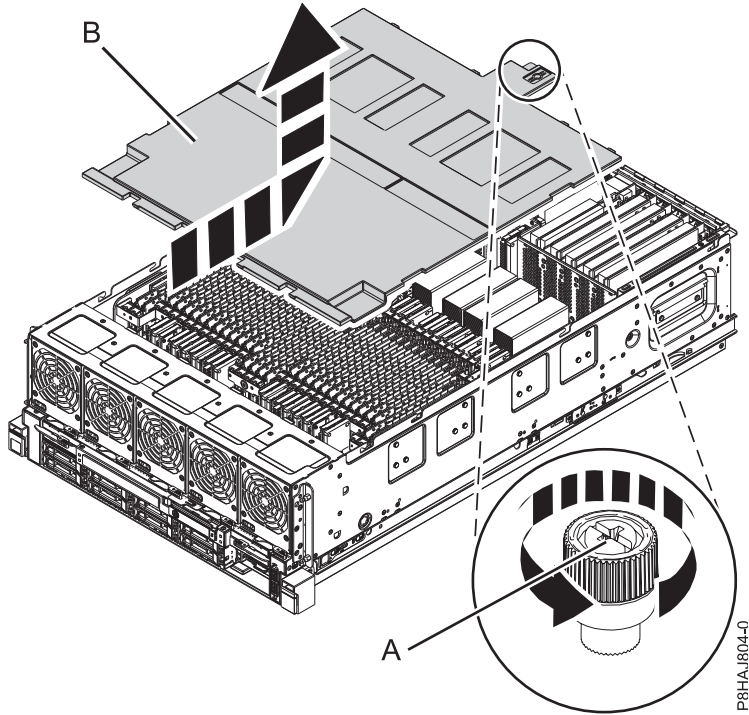

Figure 31. Removing the safety cover
2. Loosen the thumbscrew (A) located at the rear of the cover, by turning it in the direction shown in Figure 31 on page 50.
3. Slide the safety cover (B) toward the rear of the system. When the front of the cover has cleared the upper frame ledge, lift the cover up and off the system.